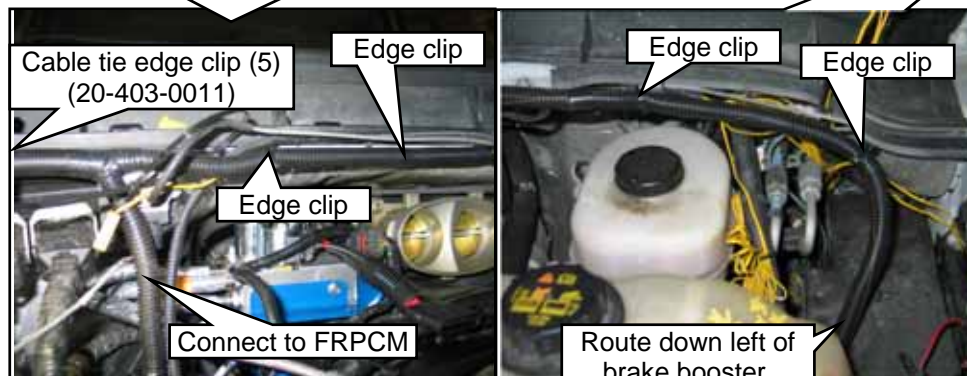

Figure 16.2
9. Install five cable tie edge clips to the top of the cowl area as shown. Route the underhood harness across the cowl over to the left of the brake booster. Attach the harness to the edge clips. **Figure 16.2.**
12. Tighten the cable tie edge clips around the harness to secure the harness. Make sure all connections are routed correctly and attached before tightening. **Figure 16.2.**